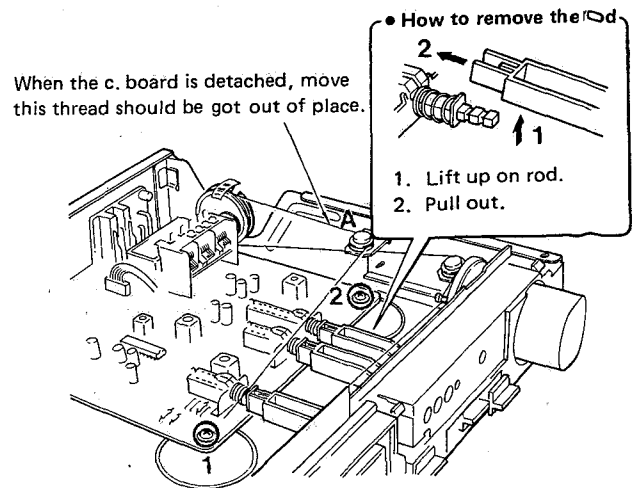

Fig. 4
- a. Apply adhesive tape to the pulley as shown in fig. 4 so that the dial string will not slip from the pulley.
- b. Remove three rods as shown in fig. 4.
- d. Remove screws ① and ② in fig. 4 and turn the tuner c. board upside down, then replace parts.
*At this time, it is necessary to detach the string at pulley A as shown in fig. 4.